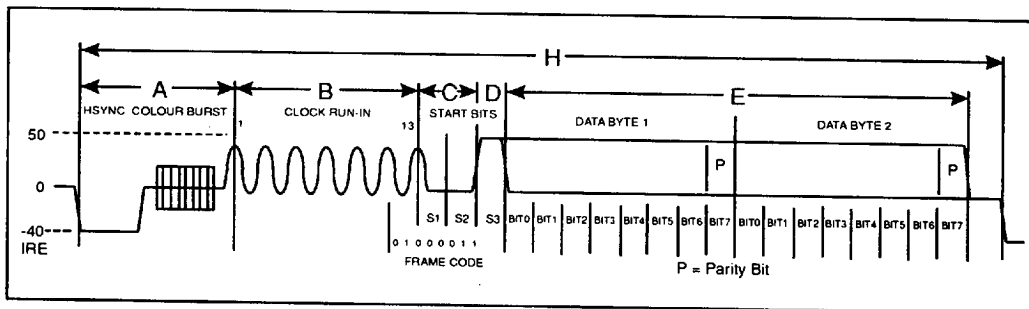

Fig.7 Closed Caption format
Two bytes of data are coded on the line 21 of each field, see figure 7. In the NTSC Closed Caption service, the default state is to code on line 21 of field one only. An additional service can also be provided using line 21 (284) of the second field. The data is coded as NRZ with odd parity, after a clock run-in and framing code. The clock run-in frequency = 0.5034965MHz which is related to the nominal line period, $D = H / 32$.